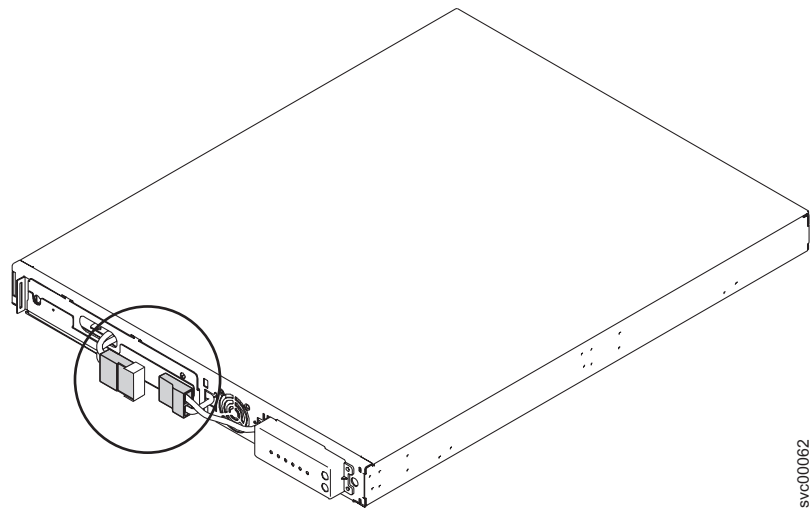

Figure 144. Internal battery connector with protective tape
6. Remove the protective tape from the internal battery connector. See Figure 144.